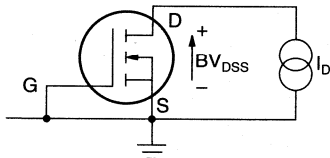

Figure 6: N-Channel BV_{DS} Measurement
- D. BV_{DSS} – The breakdown voltage of drain to source with gate shorted to source. It is determined by forcing a specified current from drain to source and measuring the resulting voltage. Properly designed MOSFETs should not have a latchback breakdown and a low current measurement is sufficiently accurate. (See Figure 6 for the measurement circuit.)